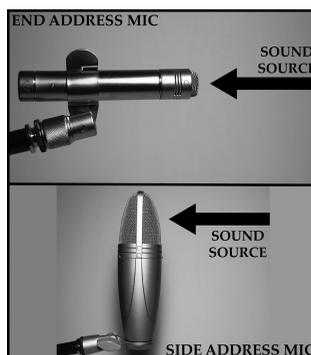

Figure 3.1 **Top:** An end address mic. **Bottom:** A side address mic.
- ▶ *End address* mics, such as the one shown in the top of **Figure 3.1**. “On-axis,” “the front,” or 0° is the front “pointy” end of the mic.
- ▶ *Side address* mics, such as the one shown in the bottom of **Figure 3.1**, are addressed from the side, as the name suggests. Usually the front is the side with the company logo on it – but always read the product manual to determine this!